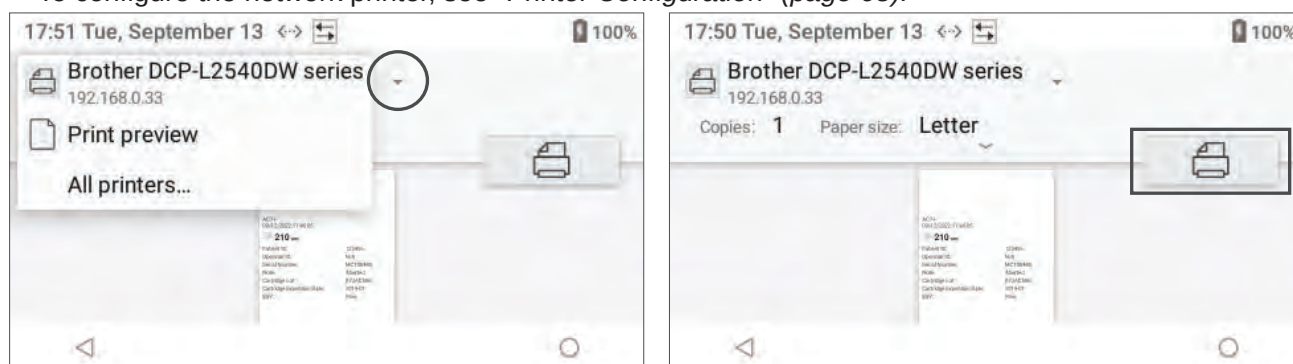

Figure 51: Print Patient Test Result
- **Print the test result** – Select **Result Details** (Result Details) and then select  (Print). Select the desired printer from the drop-down list and then select  (Print) to print the test result (Figure 51). To configure the network printer, see “Printer Configuration” (page 68).